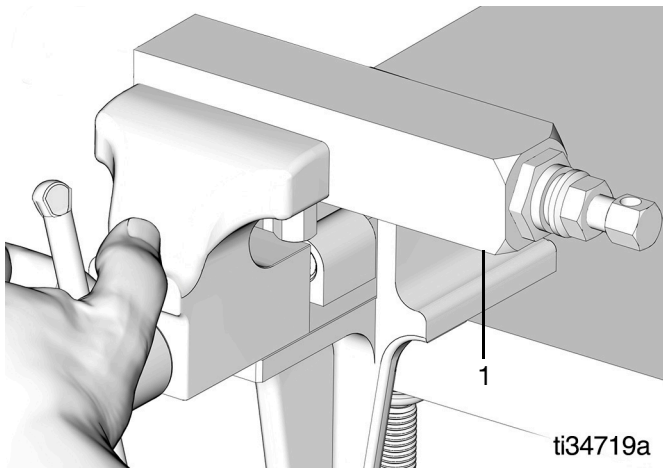

FIG. 4
- Secure injector in a vise (FIG. 4).
- Turn adjustment screw (1) (FIG. 4) all the way out to reduce the spring tension as much as possible.